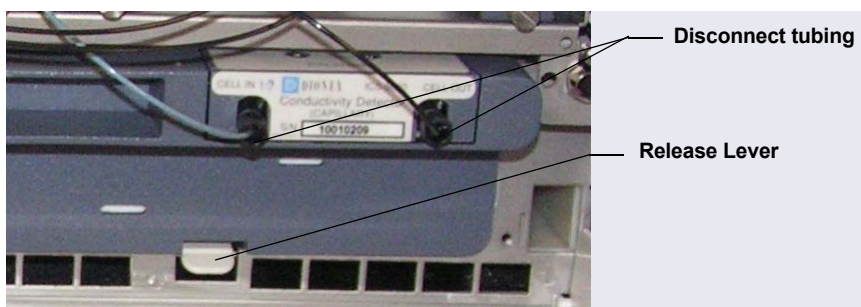

Figure 9-52. Disconnecting the CD Liquid Lines (Capillary CD shown)
3. Open the DC upper door and disconnect the tubing from the CD **CELL IN** and **CELL OUT** ports (see Figure 9-52).
5. Press the release lever located below the detector (see Figure 9-52). The detector pops out slightly from the DC compartment. Grasp the top of the detector and pull outward to remove the detector from the compartment. **Do not pull from the CELL IN and CELL OUT fittings.**